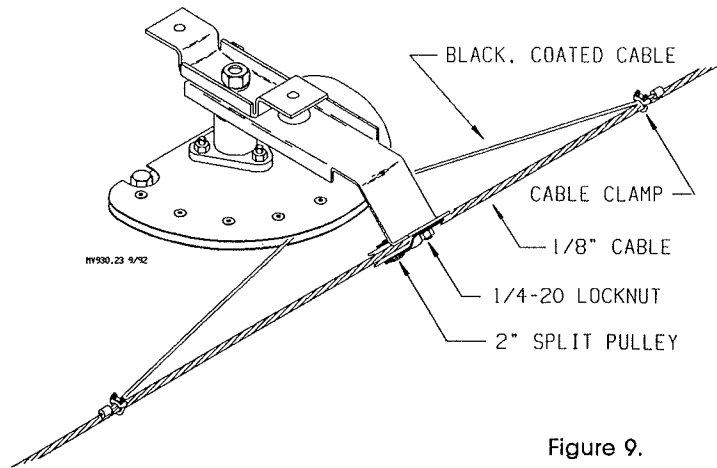

Figure 9.
3. Attach the black, coated cables from the cam to the 1/8" cable, using the cable clamps supplied in the hardware package. See Figure 9.
Note: Make sure the black, coated cables "cross" each other, as shown in Figure 9.
Note: The flat side of the cam must run parallel with the cable, as shown in Figure 9.
Secure the Pulley to the Extension Arm, as shown in Figure 9, using the 1/4-20 locknut.